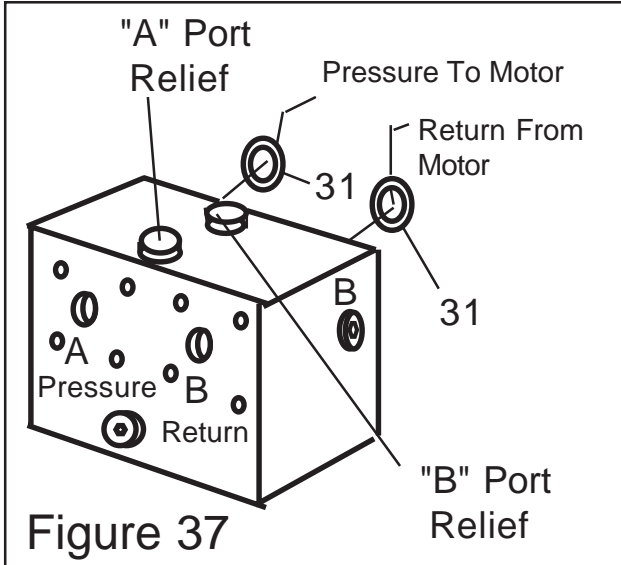

Figure 37
**18.** Install Relief Manifold. It would not have been required to remove the Relief Manifold (item 28) to disassemble the motor, it could have been left attached to the Barrel Housing Assembly (item 1) . If it was removed, inspect the O-Rings (item 31) and replace if necessary. The reliefs (item 29 & 30) would not have had to be removed, but if they were make certain to replace them the same way they were removed, there is a Relief Valve Seal Kit (See item 28) available as repair parts. (See Figure 37)